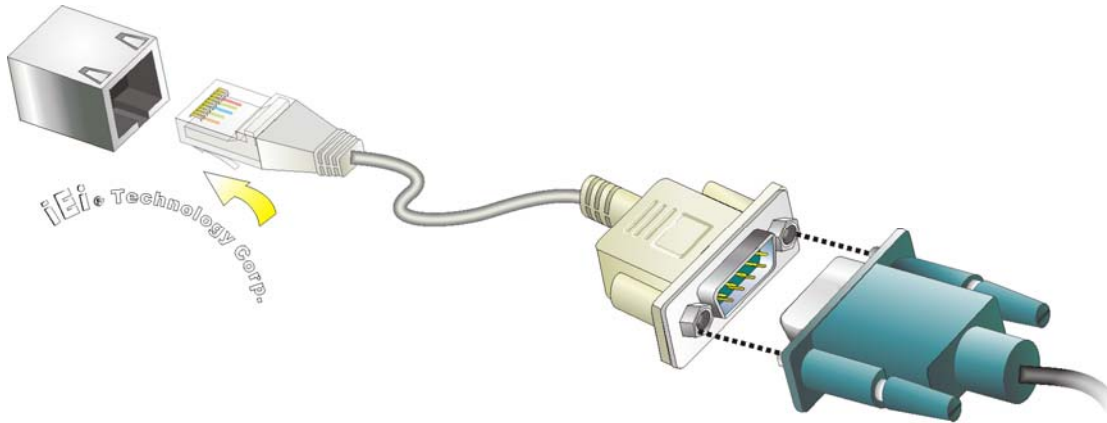

Figure 2-6: Serial Device Connector
Step 3: Insert the serial connector. Insert the DB-9 connector of a serial device into the DB-9 connector on the cable. See Figure 2-6.